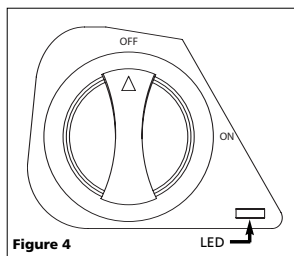

Figure 4
4. Make sure the jump starter power switch is turned off (see Figure 4).